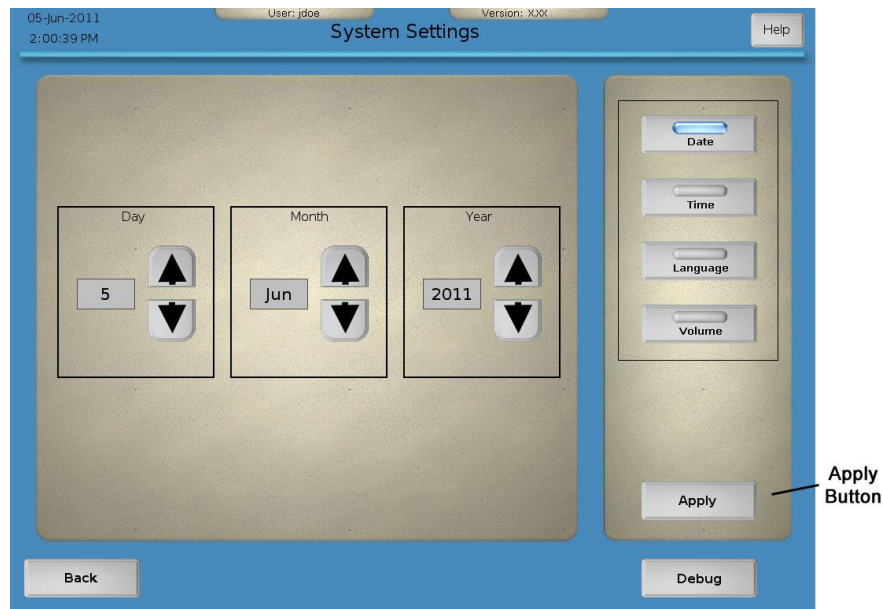

Figure 3-52. Example of a System Settings screen—apply
- 3. Press the **Apply** button to save the new system setting(s) (Figure 3-52).